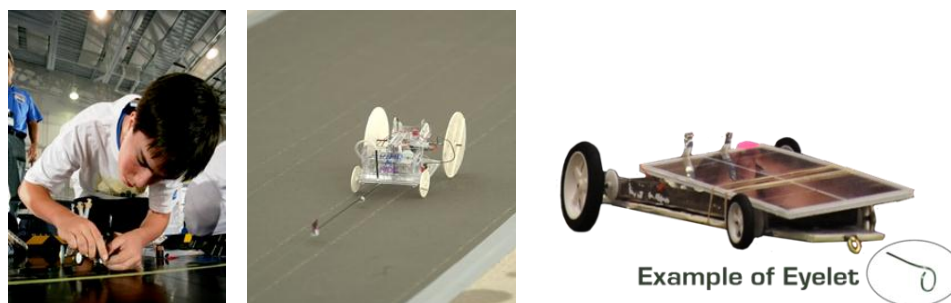

Figure 1: Examples of Eyelet
- 3-10. A guide wire made of fishing line will be no more than 1.5 cm above the surface of the track. This guide wire will go through the attached eyelet(s) on the car, serving as the steering mechanism, and keeping the car in its lane. Examples of eyelets are shown in Figure 1 below.